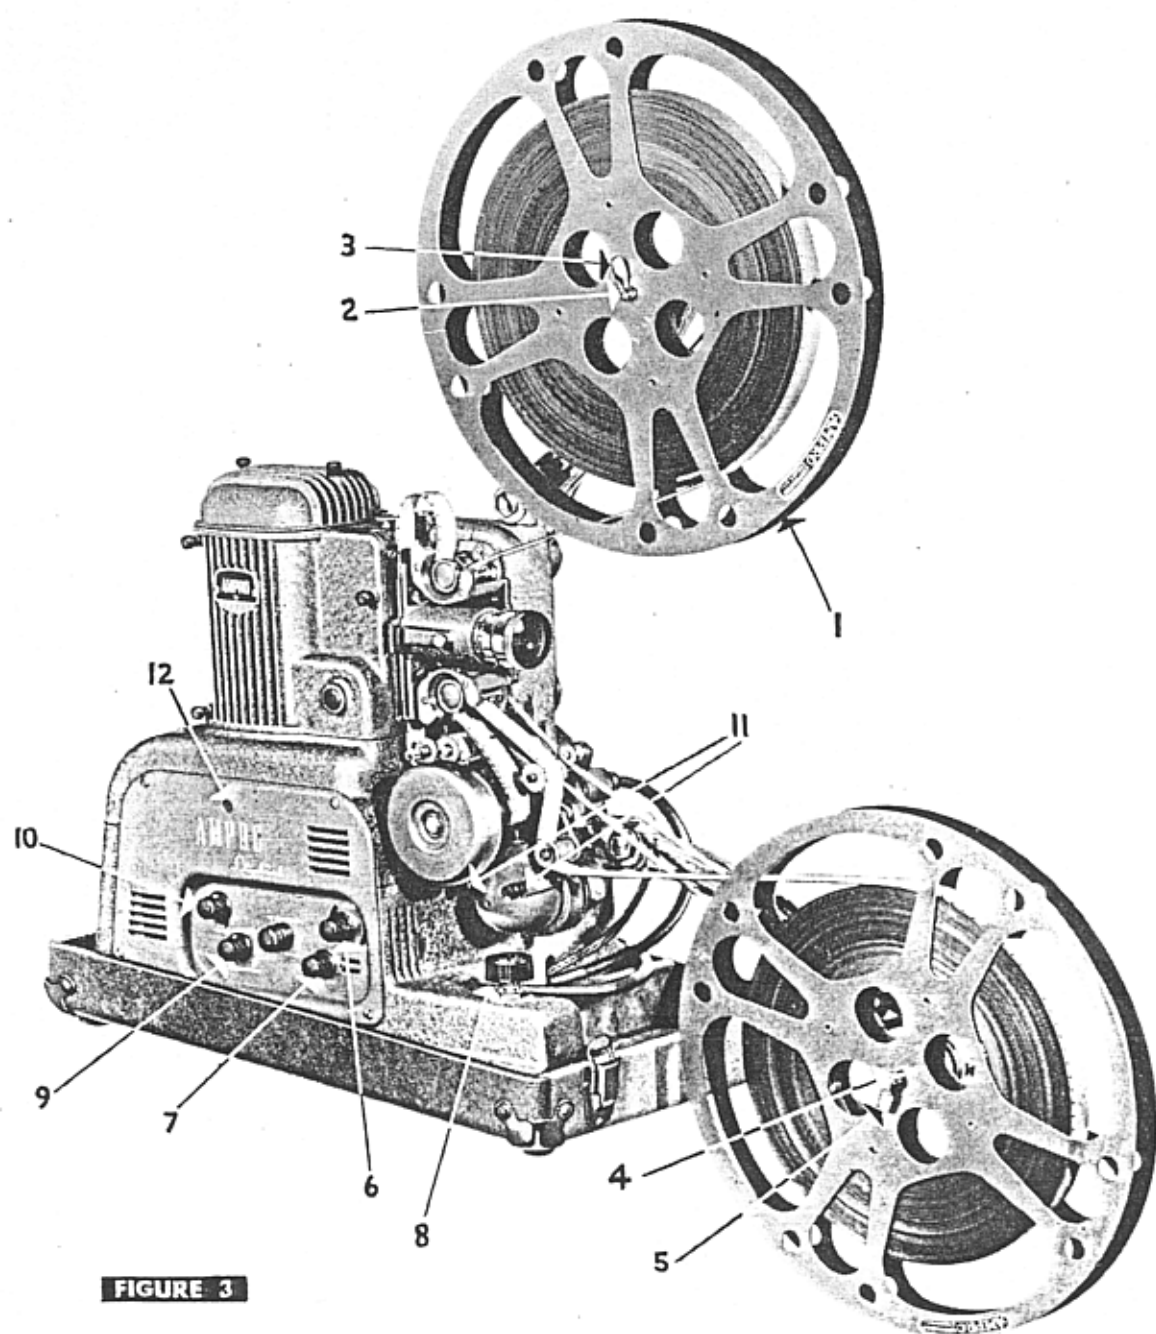

FIGURE 3
1. Place the reel of film which is to be projected (1 Fig. 3) on the feed spindle (2 Fig. 3) and fold over the reel lock finger (3 Fig. 3).
2. Place an empty reel of suitable capacity on the takeup spindle (4 Fig. 3) and fold over the reel lock finger (5 Fig. 3).
1. Turn the speed control knob (6 Fig. 3) as far as it will go in the direction marked "Sound."
2. Turn the motor control knob (7 Fig. 3) to the position marked "Motor." If the film feeds through the projector properly turn the knob to the position marked "Lamp," if not, turn the knob back to the "Off" position and re-check the threading.
5. If the picture is too high or too low, rotate the tilt knob (8 Fig. 3) to position it on the screen.
6. If silent film is being projected, turn the speed control knob (6 Fig. 3) toward the "Silent" position until proper rate of screen action is obtained.
7. If sound film is being projected turn the Volume Control (9 Fig. 3) clockwise until the proper volume level is established, then adjust the "Tone Control" (10 Fig. 3) to obtain satisfactory reproduction of sound.
8. When "The End" trailer appears on the screen turn the motor control switch (7 Fig. 3) to the "Motor" position and turn down the volume. When all of the film has passed through the projector turn the control switch to the "Off" position.
2. Turn the control switch (7 Fig. 3) to the "Motor" position.
- a. Projection Lamp—Remove the two cover screws (6) and lift off the lamp house top (7). Press downward on the lamp and turn it 90 degrees counter-clockwise; this will release the lamp so that it may be removed from the lamp house. To replace the lamp reverse the procedure. Note: One of the flanges on the lamp base is wider than the other—line up the flanges with the corresponding slots in the lamp socket when replacing the lamp.
- b. Exciter Lamp—Remove the two cover screws (11 Fig. 3) and the exciter lamp cover—rotate the lamp to release it from the socket. Note: The slots in the exciter lamp base are not equally spaced—when replacing the lamp be sure to position the base so that the three slots line up with the pins in the socket.